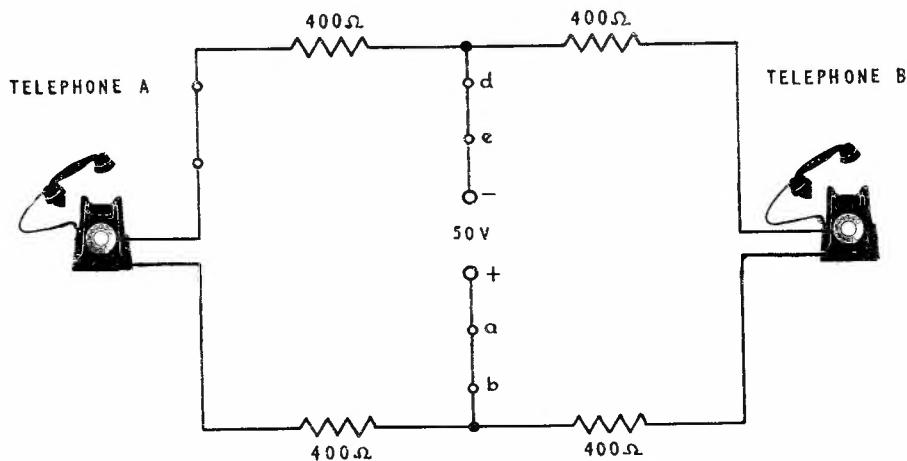

FIG. 1.
STEP 1. Connect the circuit as shown in Fig. 1.
STEP 5. Remove the 50 ohm resistors and replace with the 50 ohm windings of the relay. Connect the coil tags to the correspondingly labelled terminals of Fig. 1. Repeat STEPS 2 and 3.